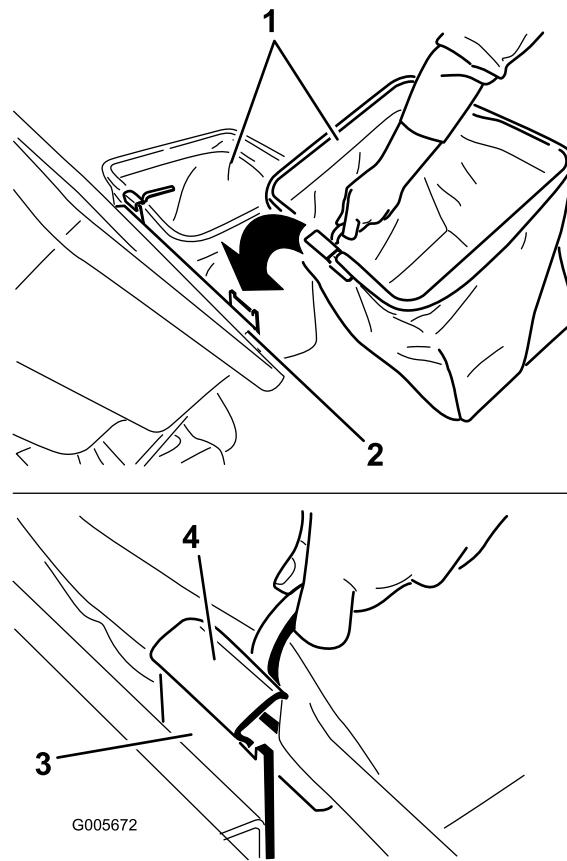

Figure 27
5. Install the bags by sliding the bag frame hooks onto the retaining brackets (Figure 27).